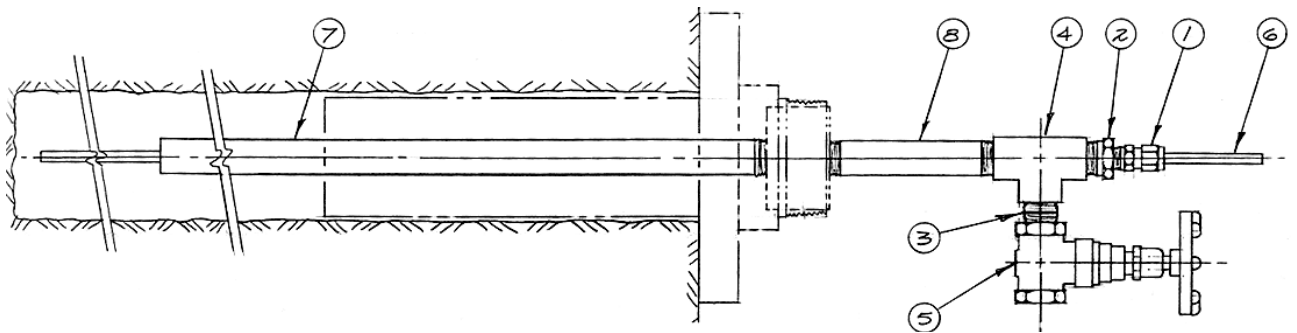

Figure 8 – Upwards Installation Assembly
- 3) Referring to the numbers in Figure 8 as a guide complete the following: Screw the down-hole grout pipe(7) into the back of the Tube Mount. Screw the external grout pipe(8) into the front of the Tube Mount. Thread the vent tube(6) through these two pipes and tape to the deepest borehole anchor so that it protrudes beyond the anchor by a distance of about 30 centimeters. Now slide the Valve/Tee assembly, (1-5), over the vent tube and screw onto the external grout tube. Tighten the Swagelok fitting(1) onto the vent tube according to the instructions in Section 2.4.